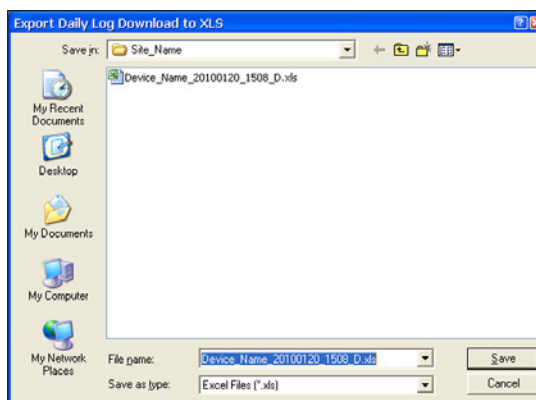

Figure 14.28
3. An Export... window will appear (Figure 14.28). To change the file path and/or file name from the defaults listed below, browse to the desired file path and/or type the desired entry in the field provided. See Log Directory and Filenames, page A-17 for more information.